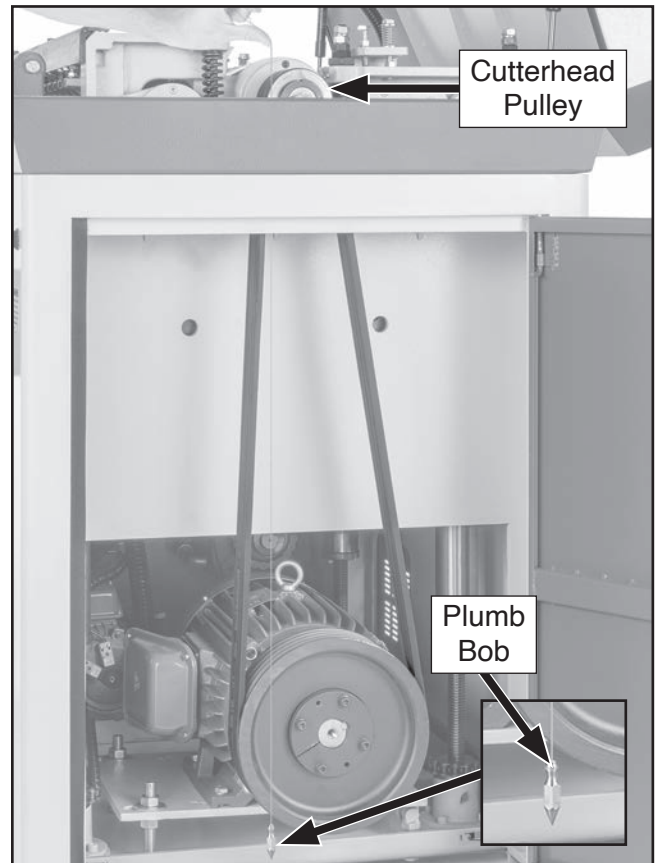

Figure 79. Example of checking pulley alignment with plumb bob.
3. Press plumb bob string to outer face of cutterhead pulley to check if cutterhead and motor pulleys are coplanar (see **Figure 79**).